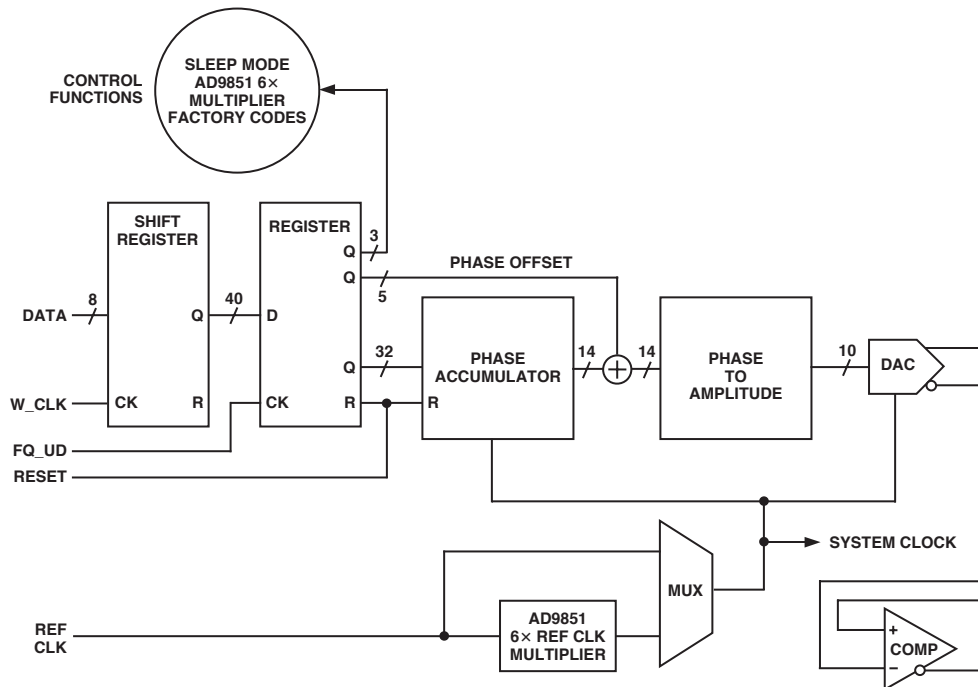
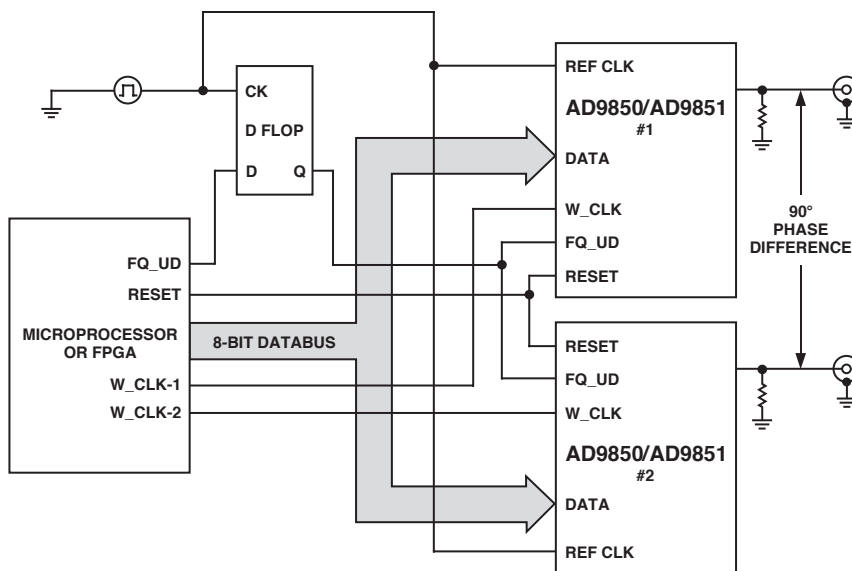
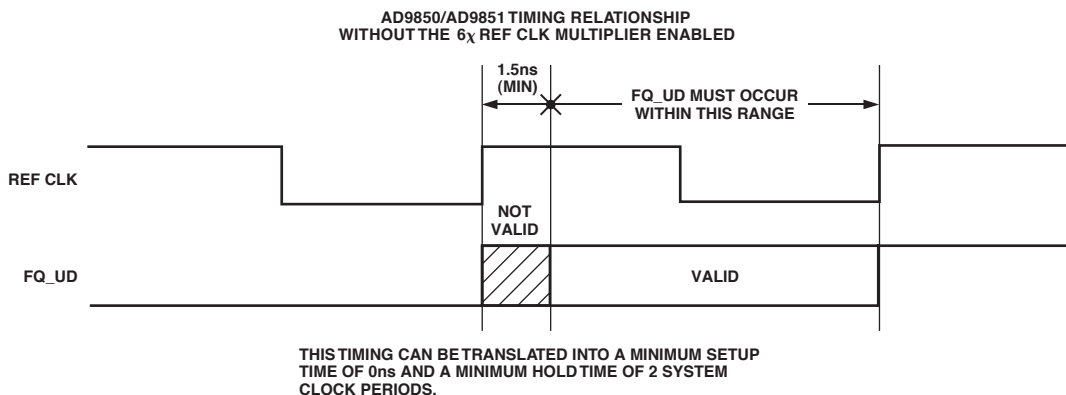

Figure 2. AD9850/AD9851 Functional Block Diagram
Figure 3. Application Circuit
Figure 4. Proper Timing Relationship between REF CLK and FQ_UD
Figure 2 is a functional block diagram of the AD9850/AD9851. There are only small differences between the two devices. The AD9851 has a 6x clock multiplier (PLL) and MUX, but the AD9850 does not.
It is essential that a proper time relationship exist between the FQ_UD and $SYSTEM\ CLOCK$ (Figure 2). Improper timing of these signals can result in partial loading of the tuning word, inhibiting the synchronization of the DDSs. The FQ_UD must have proper setup times prior to a rising $REF\ CLK$ edge. The proper timing will be addressed in the Synchronization Instructions section, and is shown in figures 4 and 6.
Figure 3 presents one possible reference design for successful synchronization of multiple DDSs. This example shows how to place two DDSs into a quadrature phase relationship.
In Figure 3, the D flip-flop enables the FQ_UD to be synchronous with the REF CLK and provides a setup time delay. Proper operation may require additional time delay in the FQ_UD path. This delay depends upon the CK-to-Q propagation time of the flip-flop. The recommended timing relationship between the FQ_UD (Pin 8) and the REF CLK (Pin 9) is depicted in Figure 4.
Here are some general instructions and recommendations for placing two DDSs into a *quadrature* phase relationship (refer to Figure 3). There are two sets of instructions, with and without the 6x REF CLK multiplier enabled.
6. See Figure 4 for the recommended timing between REF CLK and FQ_UD.